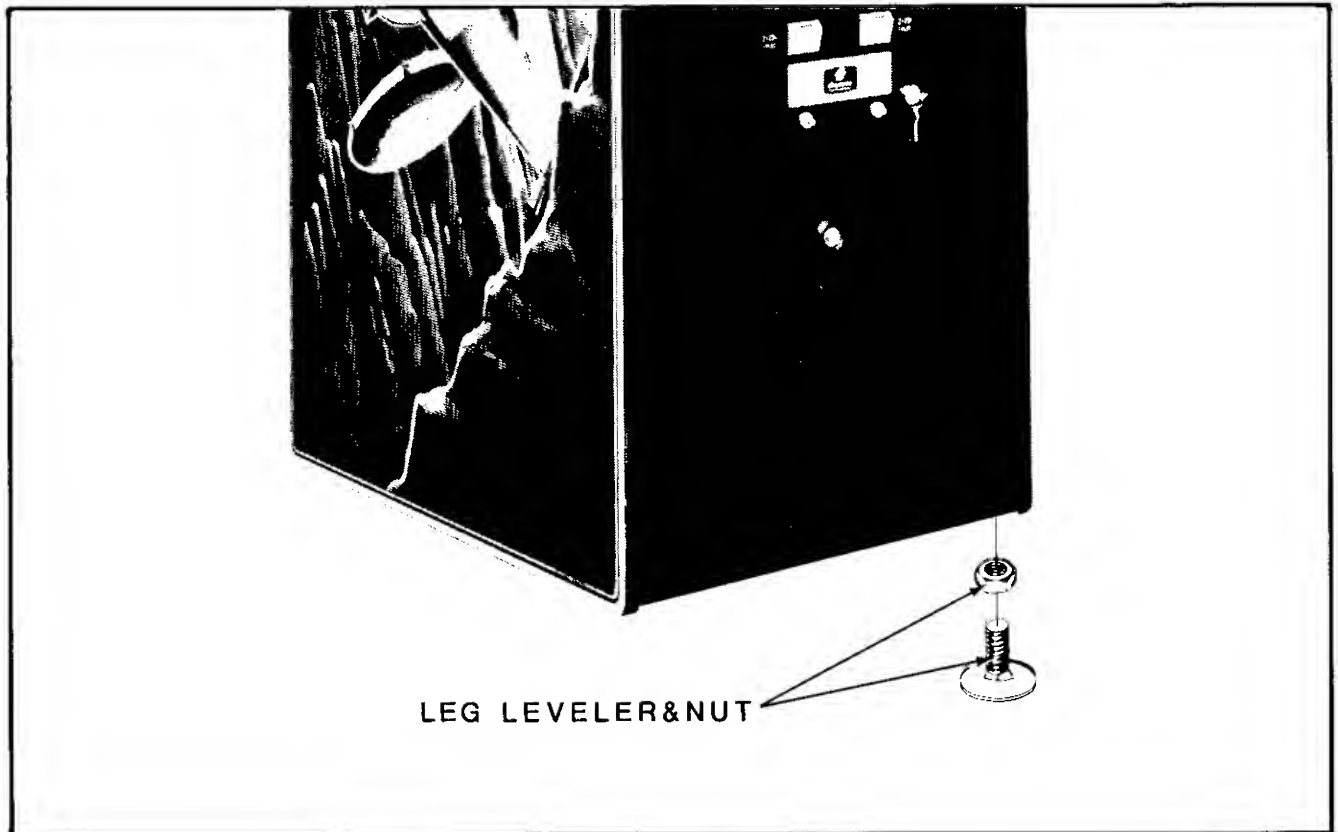

Figure 1-1 Leg Leveler Installation
4. Install the four levelers, one at each corner of the cabinet. See Figure 1-1.